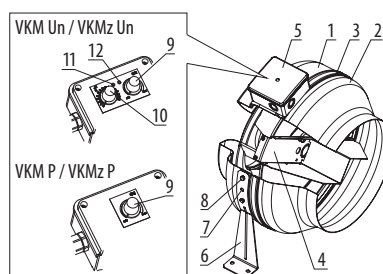

Fig. 5
The fan models with a temperature and speed controller (Fig. 5) are equipped with a speed control knob 9, a thermostat control knob 10, a fan on/off LED light indicator 11 and a thermostat LED light indicator 12 that are located on the terminal box cover.
The fan models with the speed controller (Fig. 5) are equipped with a speed control knob 9 which is located on the terminal box 5 cover.
The electronic module is designed for smooth control of fan speed (air flow). The speed is controlled with the speed control knob 9 (Fig. 5).
The speed is controlled with the speed control knob 9 and the temperature control knob 10 (Fig. 5).
- speed control knob 9 (Fig. 5)
- temperature controller 10 (Fig. 5) to set the thermostat temperature threshold
- on/off LED light indicator 11 (Fig. 5)
- thermostat LED light indicator 12 (Fig. 5)